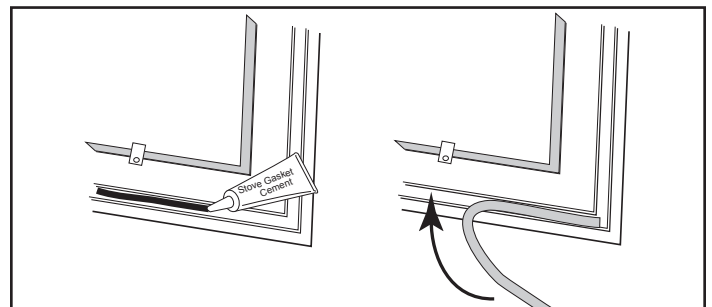

Figure 24 - Lay a bead of gasket cement then press gasket in place.
4. Starting at one end, pack a new gasket into the groove. Where the two ends of the gasket meet, ensure a good joint before trimming any excess. Do not overlap or leave ragged edges. (Figure 24)